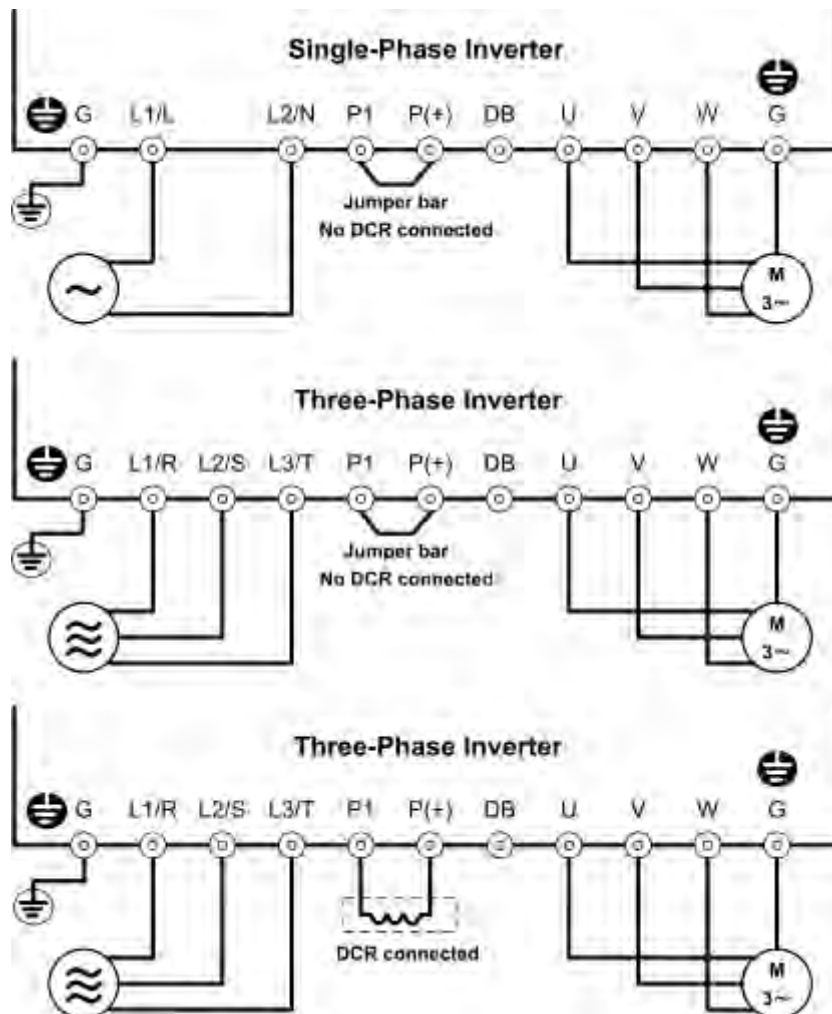

Figure 4.2-1 Connection of Main Circuit Terminals
- (1) Check that the wiring is correct.
Especially check the wiring to the inverter input terminals (L1/R, L2/S, L3/T or L1/L, L2/N) and output terminals (U, V, and W). Also check that the grounding wires are connected to the grounding terminals (G) correctly. See Figure 4.2-1.